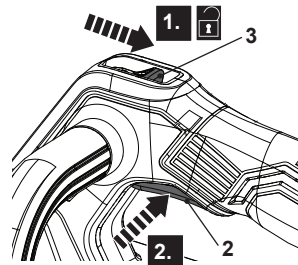

Fig. 19
1. Pull back the lock-off button (3) and hold it in position (Fig. 19, step 1).
2. Squeeze the on/off switch (2) to switch the product on (Fig. 19, step 2). Release the lock-off button (3) afterward.
3. Release the on/off switch (2) to switch the product off.